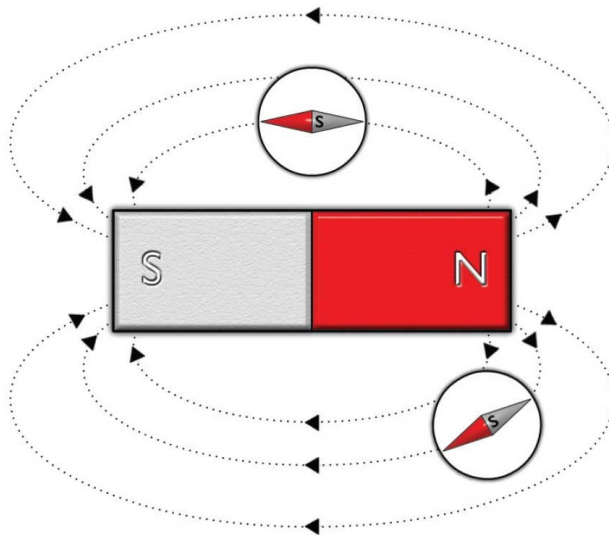

Figure 45: Magnetic Field
2. Explain: An invisible magnetic field is created by a permanent bar magnet. The magnet has North and South magnetic poles. A compass can be used to visualise the direction of the magnetic field as shown in Figure 45.